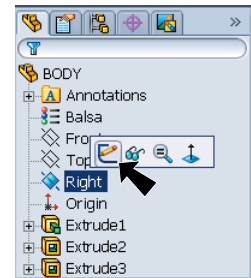

Fig. 1
- Step 1. Click **Right** (plane) in the Feature Manager and click **Sketch** from the Content toolbar, **Fig. 1**.